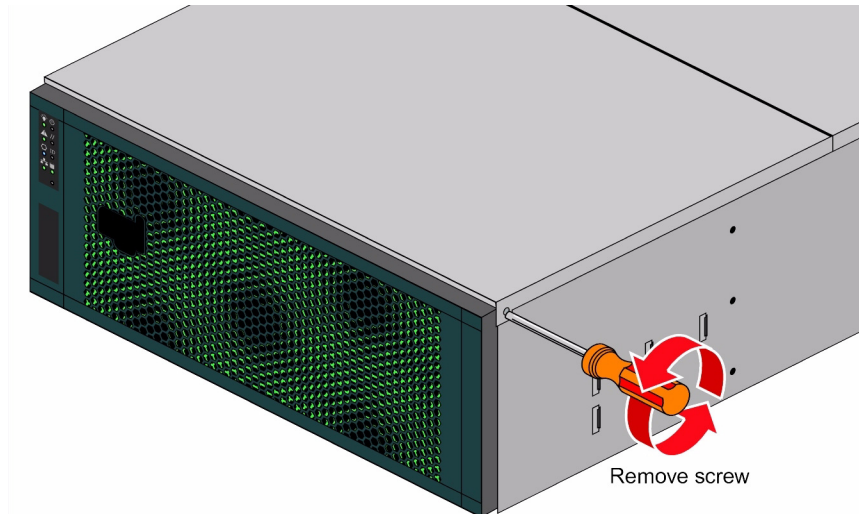

Figure 4-3 Top Cover Security Screw
2. Remove the single security screw from the cover (Figure 4-3).